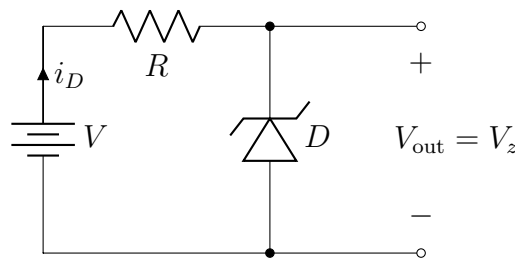

Figure 4: Zener Diode Circuit
4. Build the circuit in Figure 4 on a breadboard. There are Zener diodes in the parts bin.
8. Repeat steps (2) – (4), but measure current.